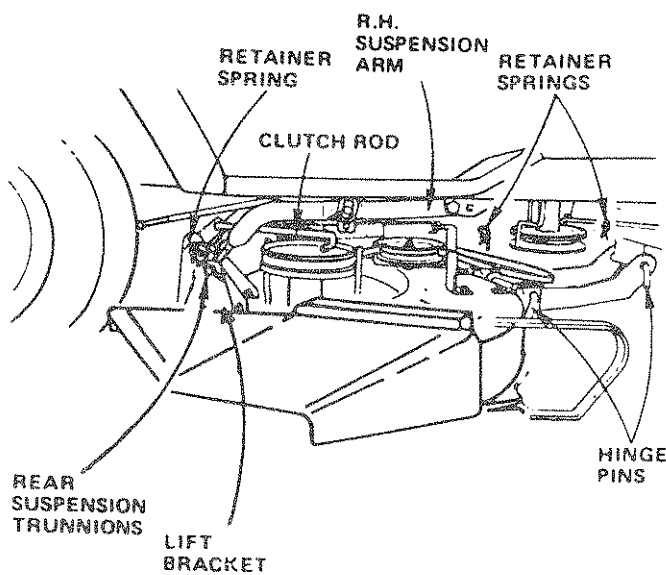

FIGURE 26
- Pull retainer springs out of rear suspension trunnions. Remove rear suspensions trunnions from lift brackets (Fig. 26).
- Pull retainer spring out of front hinge pin. Remove front hinge pin (Fig.26).
**NOTE:** IF AN ATTACHMENT OTHER THAN THE MOWER DECK IS TO BE MOUNTED ON THE TRACTOR, THE L.H. AND R.H. SUSPENSION ARMS (FIG. 26) SHOULD BE REMOVED FROM TRACTOR.
- Move Attachment lift lever (Fig. 27) forward to lower suspension arms. Slide trunnions through lift bracket holes and secure with retainer springs (Fig. 26).